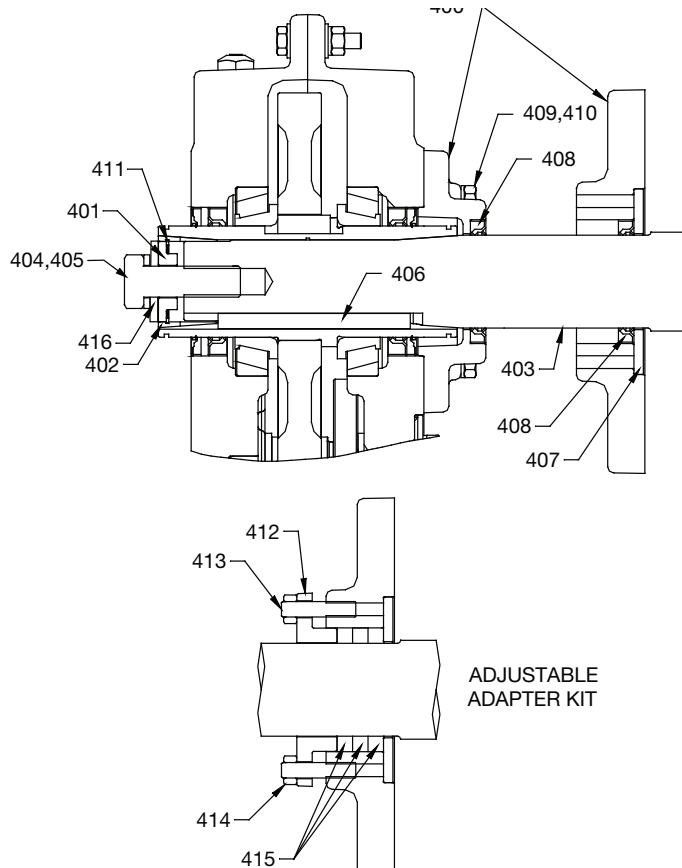

Figure 15 - Screw Conveyor Adapter Assembly
1. Install seals (408) into adapter housing as shown in Figure 15. If the optional packing adapter is to be used, install only one seal in the small end of the adapter. Use extreme care when installing seals to avoid damage to the seals. Press or tap seals into place by applying pressure only on the outer edge of the seal. Make sure seals are install evenly and are not tilted.
2. If using the optional packing adapter, install the two studs (413), retaining ring (412), and two nuts (414). Thread the nuts onto the studs about 4–5 threads. Install the three braided type seals (415) in a circular direction into the adapter cavity. Shoulder the braided seals against the adjustable retaining ring (412). To aid in installation of the driveshaft in step 7, the braided seals can be flattened out slightly with a soft hammer prior to installation. When installing the braided seals offset the joints from each other.
3. Lightly tap the large washer (407) into the counterbore on the large end of the adapter to seal the braided material installed in step 2 or the seal installed in step 1.
5. Position screw conveyor adapter (400) on the reducer output hub so that the small end (end with four drilled holes) rests on reducer. The approximate 3.0mm piloting projection should locate in the output seal bore next to the auxiliary seal. Adapter projection should not touch the face of the gear case casting.
6. Place four adapter screws (409) and lock washers (410) through the adapter and thread into the reducer. Tighten the four cap screws (409) to the torque specified in Table 11.
8. Install the retaining ring (411) into the screw conveyor wedge (402). Making sure the driveshaft is fully seated into the reducer, slide the wedge onto driveshaft.
9. Install keeper plate (401), support washer (416) (sizes TA6307 and TA7315 only, driveshaft cap screw (404), and lockwasher (405). Torque to specifications in Table 11.